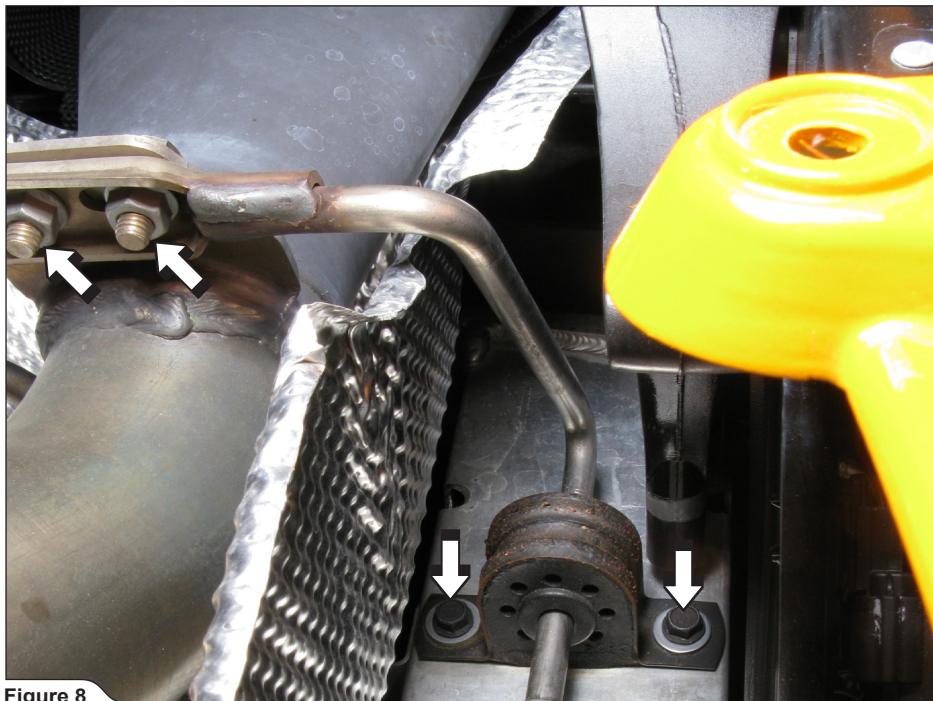

Figure 8
7. Unscrew both rear muffler's rubber brackets and carefully remove the muffler off the vehicle (Figure 8).